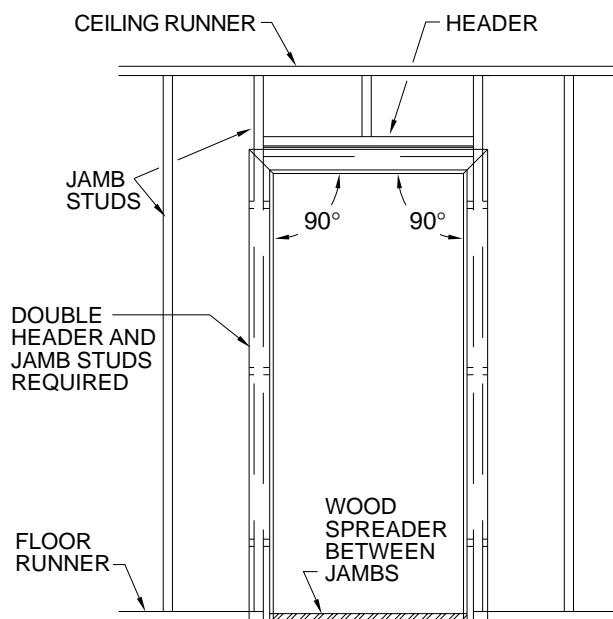

Figure 16 – Wood stud wall construction
(see figures 16 and 17)
2. Set spreader. Attach jambs to floor through floor anchor or floor extension. Install double jamb studs to floor and ceiling runners and header (see figure 16).